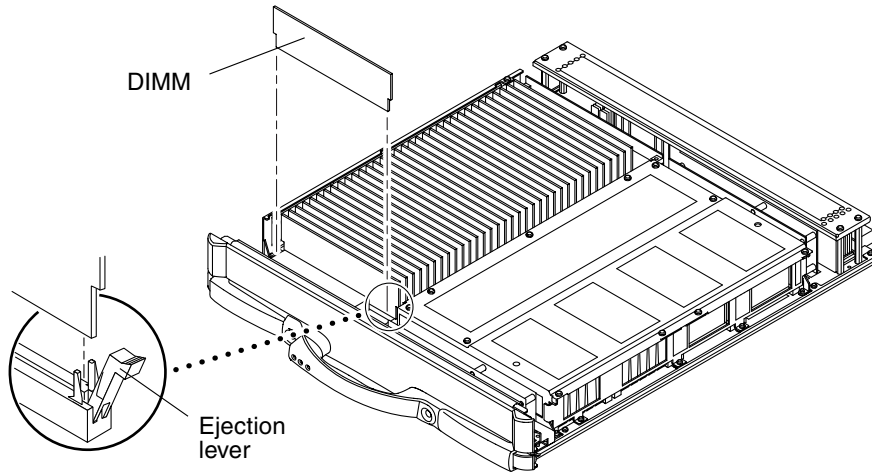

FIGURE 8-10 Removing a DIMM
4. **Eject the faulty DIMM by pressing down on the ejection levers on both sides of the DIMM connector (FIGURE 8-10).**